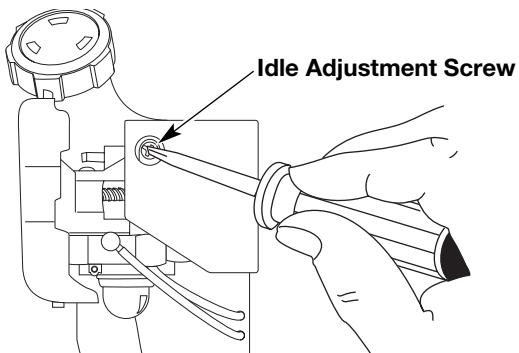

Fig. 32
The idle speed of the engine is adjustable. An idle adjustment screw is reached through a hole in the top of the engine cover (Fig. 32).
2. Release the throttle trigger and let the engine idle. If the engine stops, insert a small phillips or flat blade screwdriver into the hole in the air filter/muffler cover (Fig. 32). Turn the idle speed screw in, **clockwise**, 1/8 of a turn at a time (as needed) until the engine idles smoothly.